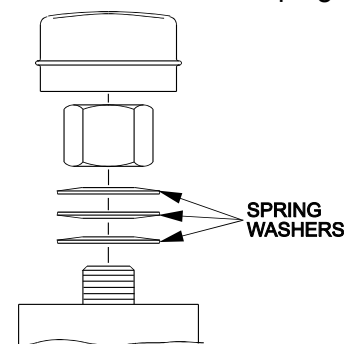

FIGURE 17
- a) Remove dust cap from caster and tighten nyloc nut until washers are flat and back off 1/4 of a turn to properly set the pre-load on the bearings. If disassembled, make sure the spring washers are reinstalled as shown in Figure 17.